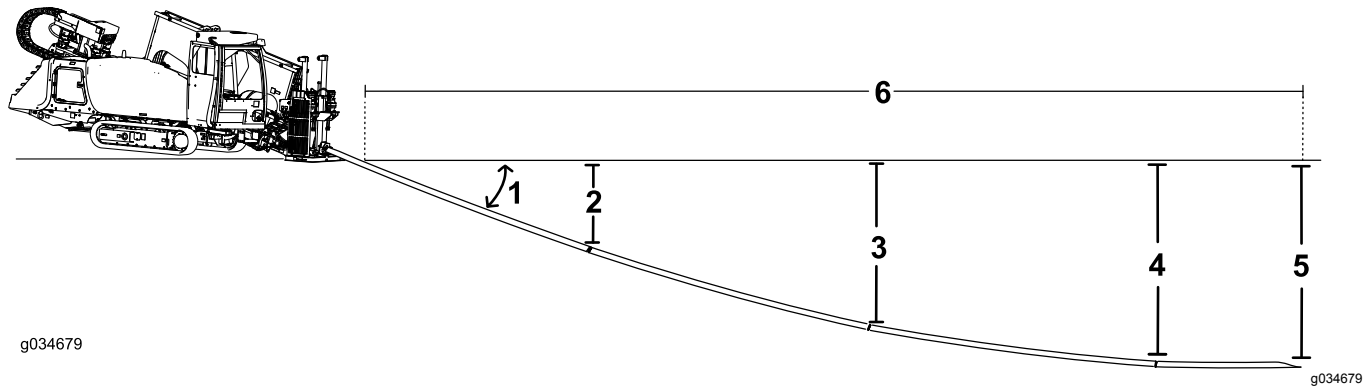

Figure 32
- Insert the first 3 m (10 ft) of drill bit/pipe into the ground with no steering. The end of the drill bit will be 53 cm (21 inches) deep (Figure 32).